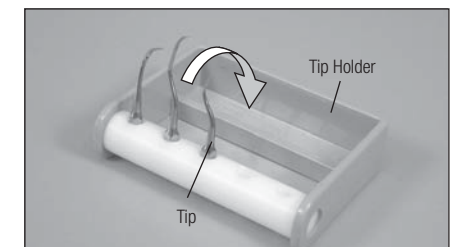

Fig. 23
- The Tip Holder is autoclavable and can hold up to 5 tips at once. To autoclave, tilt the tips in the direction of the arrow in Fig.23.